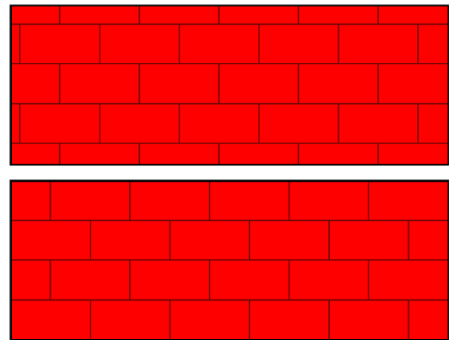

FIGURE 15-4: Poorly laid red bricks (top); properly laid red bricks (bottom).
- *None:* This button refers to background color, which can be useful when using hatching to portray actual objects. For example, a brick pattern can have a red background so that the hatched region looks like red bricks, as shown in Figure 15-4.
» **Origin**: AutoCAD typically creates hatched areas by having them radiate outward from the origin, effectively turning them on and off as they encounter boundaries. This behavior can cause problems with some real-object patterns, however. You wouldn't want a brick wall to start with 68.3 percent of a brick, so the Origin option lets you snap to an exact point, as shown in Figure 15-4. You may also want to check out Chapter 9's reference to the need for a brick layer.